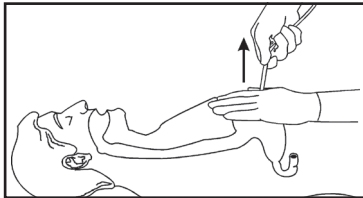

Figure 14
- Using traction and counter traction, the PEG tube may be removed by grasping the tube near the skin line and placing the other hand around the stoma site then pulling upward on the PEG tube (Figure 14).